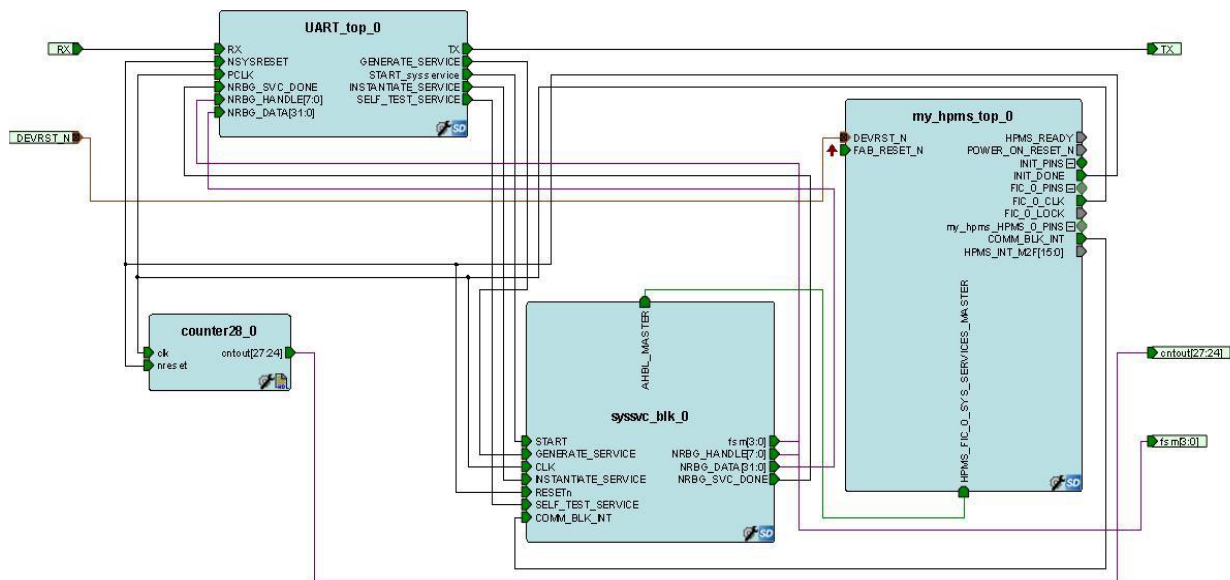

Figure 33 Tie Signal to the Top Using SmartDesign
8. After making all the connections listed, top-level Smart Design canvas TOP appears, as shown in Figure 33. Drag the components or use the SmartDesign Auto Arrange feature to improve the appearance of the canvas.